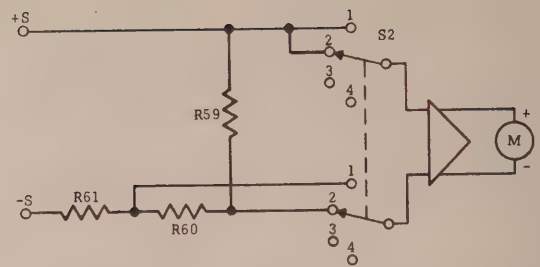

Figure 4-8. Voltmeter Connections, Simplified Schematic
4-30 Figures 4-8 and 4-9 show the meter connections when S2 is in the higher voltage and current positions, respectively. For the sake of simplicity, some of the actual circuit components are not shown on these drawings. With METER switch S2 in the higher voltage range, position (2), the voltage drop across R59 is the input to the meter amplifier and the meter indicates the output voltage across the +S and -S terminals. For low output voltages, S2 can be switched to position 1 resulting in the application of a larger percentage of the output voltage (drop across R59 and R60) to the meter amplifier.